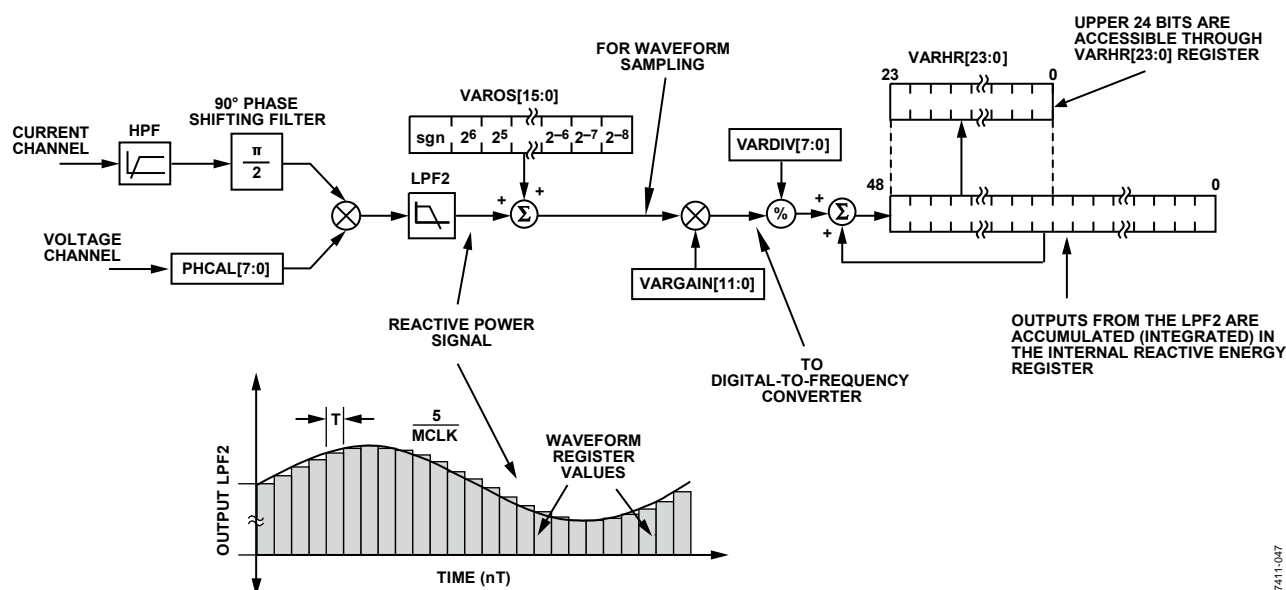

Figure 67. Reactive Energy Calculation
The instantaneous reactive power signal, $q(t)$, is generated by multiplying the voltage and current channels. In this case, the phase of the current channel is shifted by 90°. The dc component of the instantaneous reactive power signal is then extracted by a low-pass filter to obtain the reactive power information (see Figure 67).
Figure 67 shows the signal processing chain for the ADE5169 reactive power calculation. As explained in the Reactive Power Calculation (ADE5169) section, the reactive power is calculated by applying a low-pass filter to the instantaneous reactive power signal. Note that, when reading the waveform samples from the output of LPF2, the gain of the reactive energy can be adjusted by using the multiplier and by writing a two's complement, 12-bit word to the var gain register (VARGAIN[11:0], Address 0x1E). Equation 23 shows how the gain adjustment is related to the contents of the var gain register.
The ADE5169 also incorporates a reactive power offset register (VAROS[15:0] (Address 0x21). This is a signed, two's complement, 16-bit register that can be used to remove offsets in the reactive power calculation (see Figure 67). An offset can exist in the reactive power calculation due to crosstalk between channels on the PCB or in the IC itself. The offset calibration allows the contents of the reactive power register to be maintained at 0 when no power is being consumed.
The discrete time sample period (T) for the accumulation register in the ADE5169 is 1.22 μ s (5/MCLK). As well as calculating the energy, this integration removes any sinusoidal components that may be in the active power signal. Figure 67 shows this discrete time integration or accumulation. The reactive power signal in the waveform register is continuously added to the internal reactive energy register.
As shown in Figure 67, the reactive power signal is accumulated in an internal 49-bit, signed register. The reactive power signal can be read from the waveform register by setting the WAVMODE register (Address 0x0D) and setting the WFSM bit (Bit 5) in the Interrupt Enable 3 SFR (MIRQENH, Address 0xDB). Like the current and voltage channel waveform sampling modes, the waveform data is available at sample rates of 25.6 kSPS, 12.8 kSPS, 6.4 kSPS, and 3.2 kSPS.